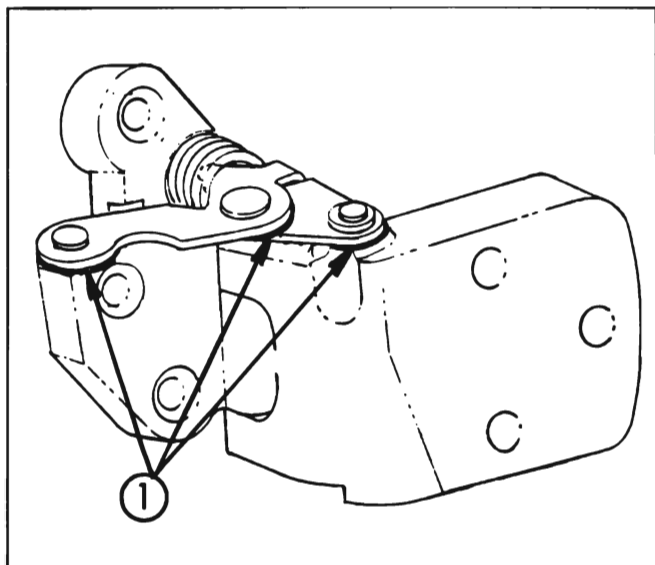

Figure 1-19—Rear Door Hinge and Hold Open Assembly
8. Rear Door Hinge and Hold-Open Assembly. Wipe off dirt and apply a light coat of Lubriplate or equivalent, to frictional points (Figure 1-19). Wipe off excess lubricant.